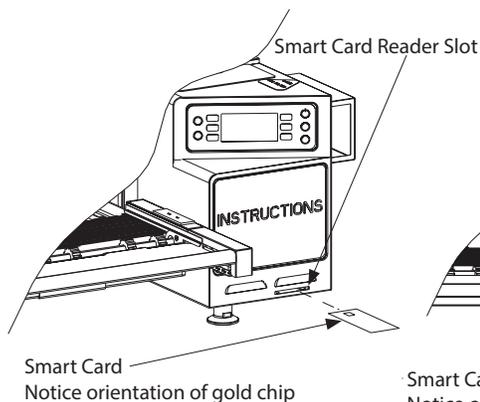

Figure 14: Inserting Smart Card - HhC 1618
1. Insert the gray smart card marked "1 of 2" (Figures 14, 15, and 16).